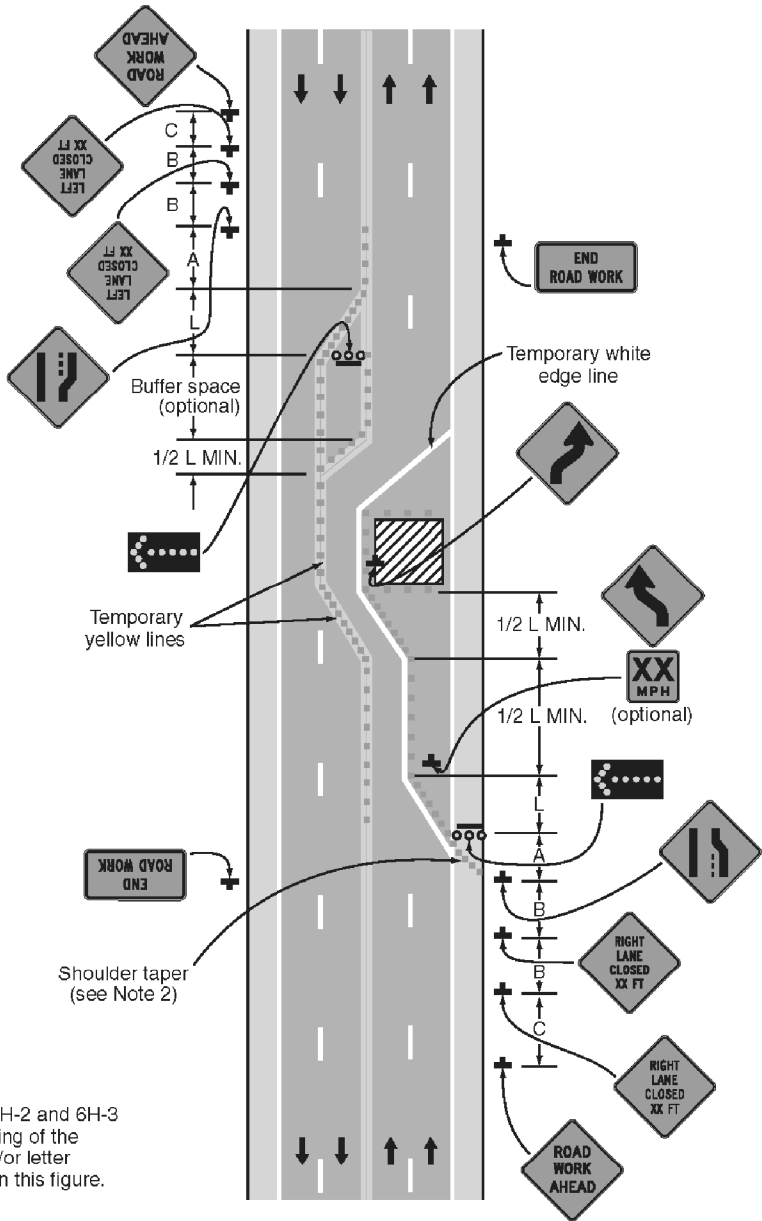

Figure 6H-32. Half Road Closure on a Multi-Lane, High-Speed Highway (TA-32)
Notes for Figure 6H-32—Typical Application 32
** The column headings A, B, and C are the dimensions shown in Figures 6H-1 through 6H-46. The A dimension is the distance from the transition or point of restriction to the first sign. The B dimension is the distance between the first and second signs. The C dimension is the distance between the second and third signs. (The "first sign" is the sign in a three-sign series that is closest to the TTC zone. The "third sign" is the sign that is furthest upstream from the TTC zone.)